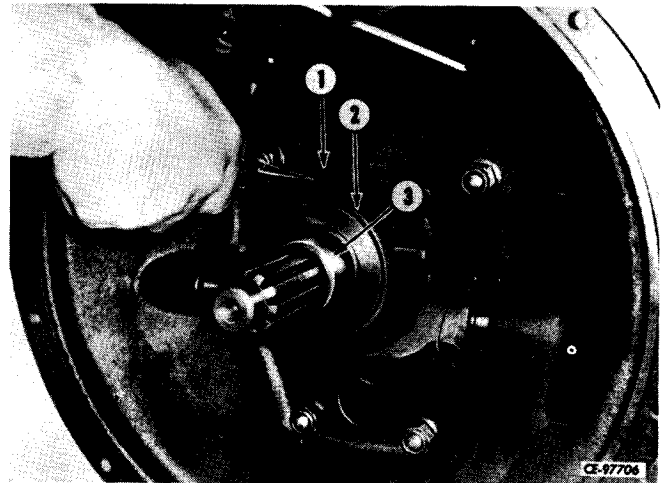

Figure 4-12
Remove the throw-out bearing spring (1, Fig. 4-12) and slide bearing carrier assembly (2) from the retainer (3).